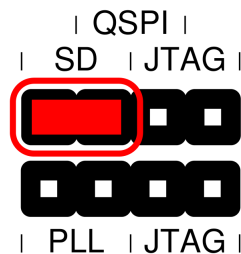

Figure 1: Correct position of boot jumper.
**Task 1.** Set the boot jumper to the SD position (Fig. 1). It is located in the top right corner of the Pynq.